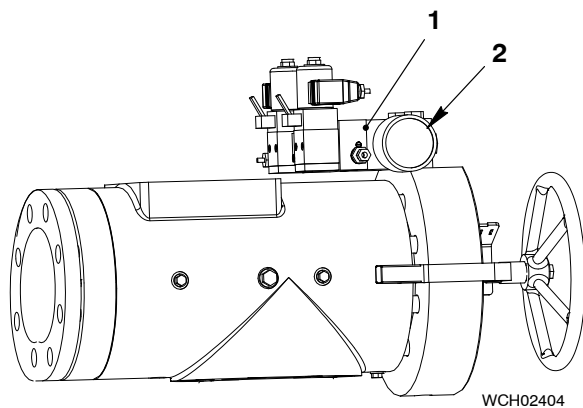

Fig. 4
- 21) Attach the silencer (2, Fig. 4) to the control valve (1).